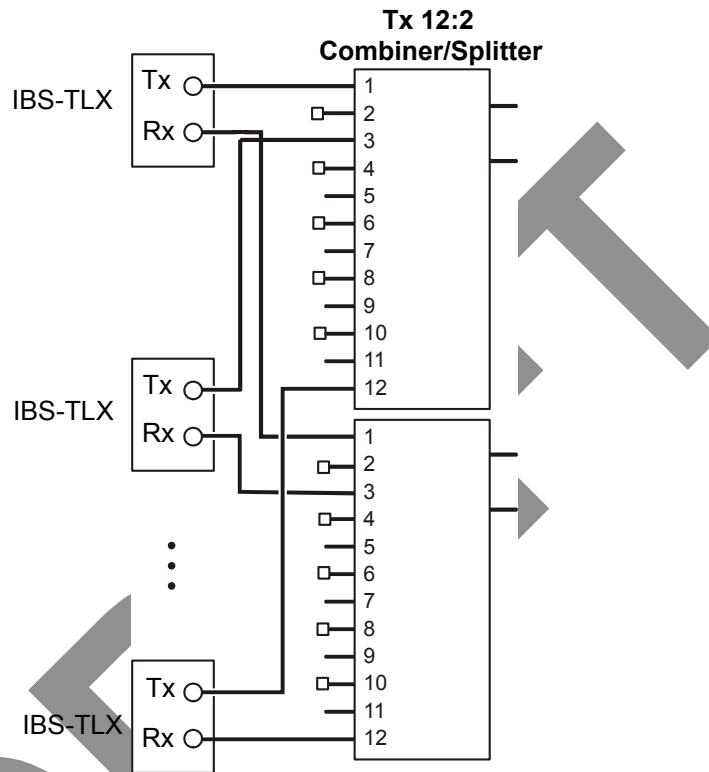

Figure 36 – SMA cable connections
5. Connect the Tx and Rx connectors from the other IBS cards (cards 2 through 12) to Tx and Rx 12:2 Combiner/Splitter connectors 2 to 12, as indicated in *Figure 36*.